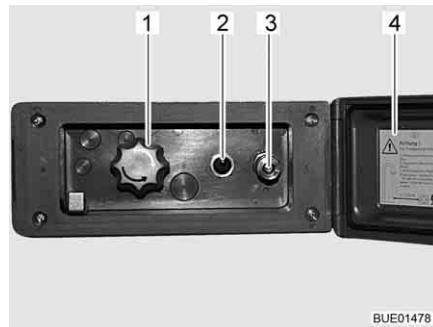

Fig. 139 External shower connection point
- Unlock and open the cover (Fig. 139,4).
- Attach hose of the external shower to the quick closure (Fig. 139,3).
- Switch on the water pump using the switch (Fig. 139,2).
- Adjust the water temperature with the rotary knob (Fig. 139,1) as desired.
- Switch off the water pump using the switch (Fig. 139,2).
- Close the cover (Fig. 139,4) and lock with key.
- Turn knob (Fig. 139,1) to the centre position.